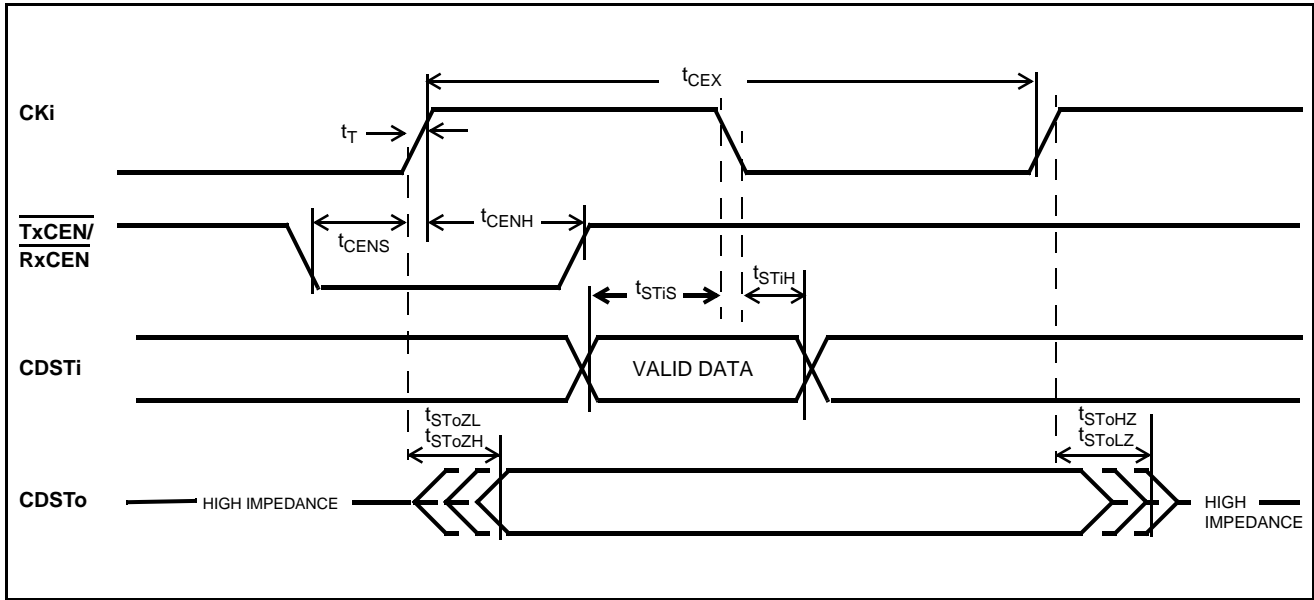

Figure 23 - Serial Port Inputs and Outputs in External Timing Mode
**AC Electrical Characteristics† - Serial Port in External Timing Mode - (Figure 23)**